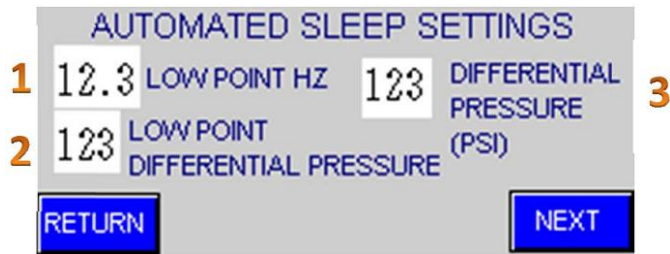

Figure 23. Low Point Automated Sleep Settings Screen
1. **Low point Menu for Automatic Sleep Adjustment.** Low sleep level adjustment, Figure 23.
2. **Middle Point Menu for Automatic Sleep Adjustment.** Middle sleep level adjustment similar to Figure 23.
3. **High Point Menu for Automatic Sleep Adjustment.** High sleep level adjustment similar to Figure 23.